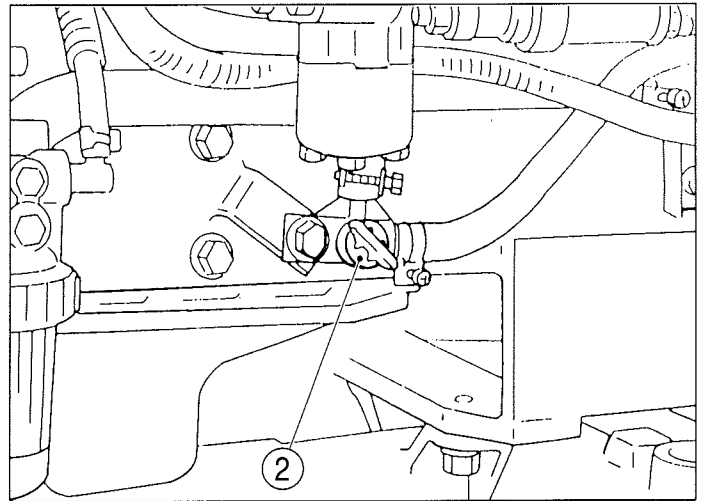

FIG. 82
FIG. 82: Drain cock (2) will drain coolant from the cylinder block and radiator. The drain cock is located on the right side of the engine. Coolant should be replaced if it becomes contaminated with rust or sludge. Loosening the radiator cap will assist draining.